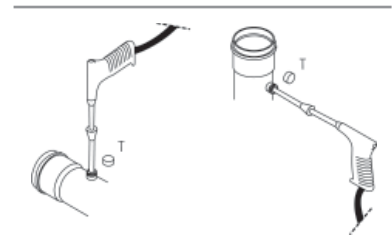

Fig. 5.d
1. remove the T cap from the flue inspection section on the humidifier (see Fig. 5.d);